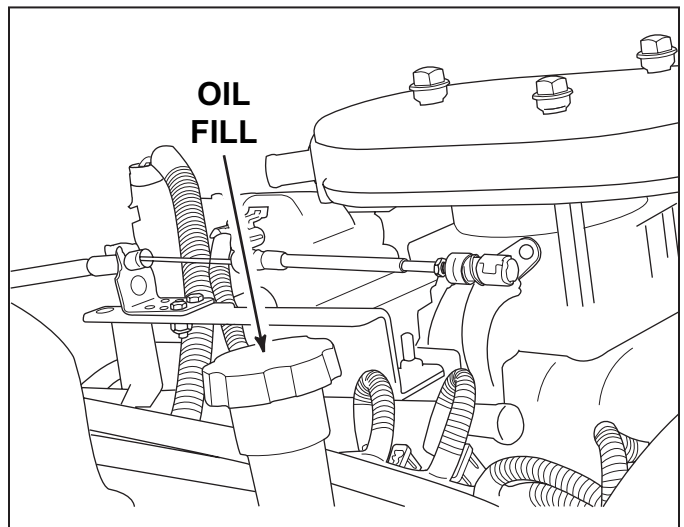

Figure 11-22 Engine Oil Fill (5.7L)
Locations "A" (Figure 11-22) are access holes in order to loosen the raw water pump attaching bolts. The bolts are secured in the pump by O-rings, and will not fall out during removal.
4. Fill the engine with the recommended oil and quantity, through the oil fill location on the valve cover (Figure 11-22). See **OIL REQUIREMENTS** page 29 and **ENGINE FLUID CAPACITIES** page 55, respectively. If you are unsure of the correct amount of oil to use during a service interval, perform the following procedure: